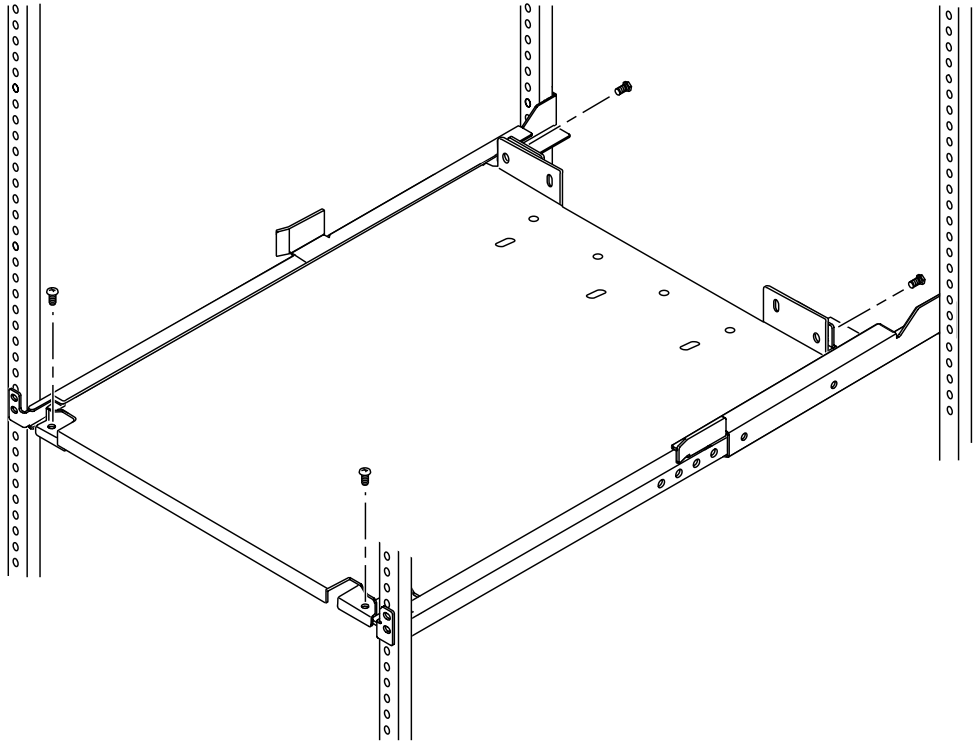

FIGURE 7 Fastening the Mounting Tray to the Mounting Rails
7. Fasten the mounting tray to the mounting rails (FIGURE 7).